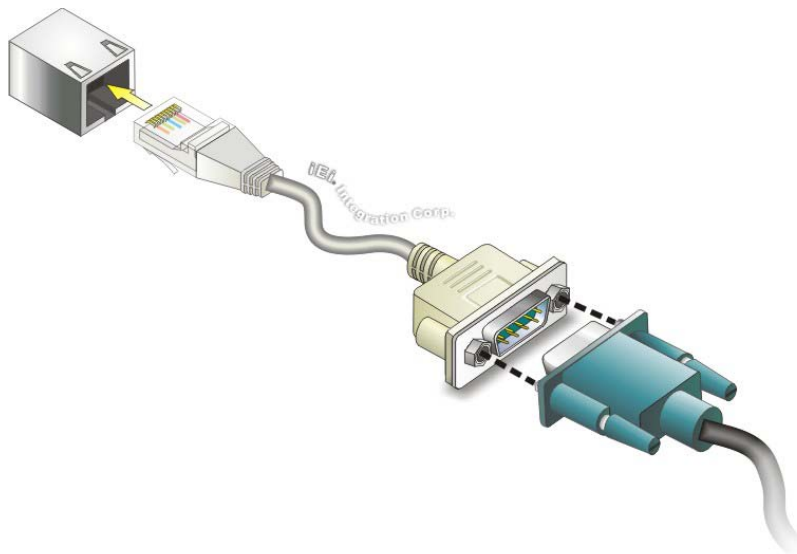

Figure 3-15: RJ-45 RS-232 Serial Device Connection
Step 2: **Insert the RJ-45 connector.** Insert the RJ-45 connector on the RJ-45 to DB-9 COM port cable to one of the RJ-45 RS-232 connectors on the TANK-870-Q170 Series. See **Figure 3-15**.